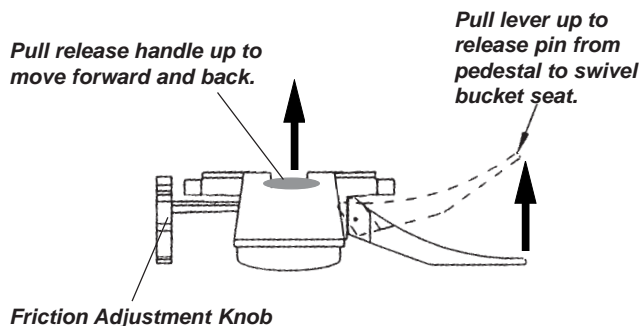

Figure N6: Bucket Seat Slider Base (Front View)
The bucket seat or captain’s chair is adjustable. To adjust, lift up on the metal release handle under the middle of the seat. Slide the seat forward or aft to the desired position. The seat will adjust approximately six (6) inches. See Figure N6.
2. Locate the lever on the left side of the slider mechanism and pull to release the pin from the pedestal. This will allow you to rotate the seat. See Figure N6.
2. Position the seat according to the needs of the driver by lifting up on the release handle under the middle of the seat. See Figure N6.
2. Slide the seat completely forward by lifting up on the release handle under the middle of the seat. See Figure N6.
3. Locate the lever on the left side of the slider mechanism and pull to release the pin from the pedestal. This will allow you to rotate the seat. See Figure N6.
1. Slide the seat completely forward by lifting up on the release handle under the middle of the seat. See Figure N6.
2. Position the seat according to the needs of the individual by lifting up on the release handle under the middle of the seat. See Figure N6.